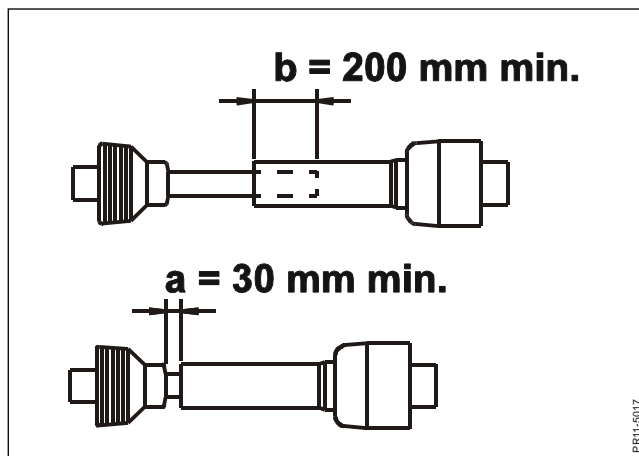
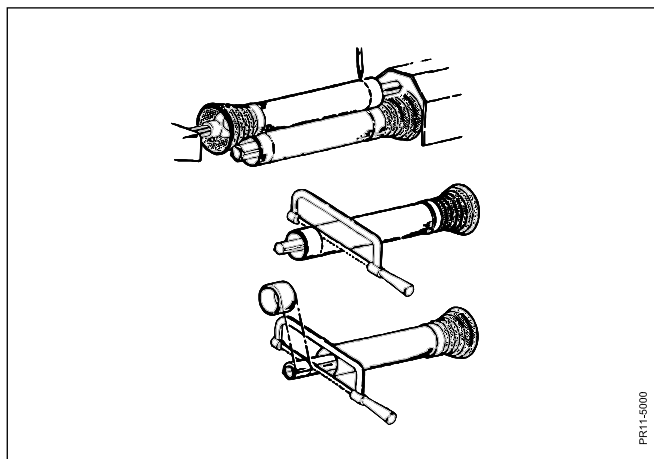

Fig. 2-10
Fig. 2-12
- Fig. 2-10** Adjust the length of the PTO shaft so that it:
Fig. 2-12 Fasten the halves of the shaft to PTO and PIC (fig. 2.10), respectively, when these are right opposite each other with the machine in working position. (The longest distance on this machine). Hold the shaft ends parallel to each other and mark the required shortening, minimum 200 mm overlapping. Shorten all 4 tubes equally. The ends of the profile tubes must be rounded off and burrs must be removed carefully. It is very important that the tubes are smooth and clean before greasing. Grease the tubes carefully before reassembling.
WARNING: Never turn so sharply that there are less than the prescribed 30 mm distance in order not to bottom the shaft. See measurement a in fig. 2-10.